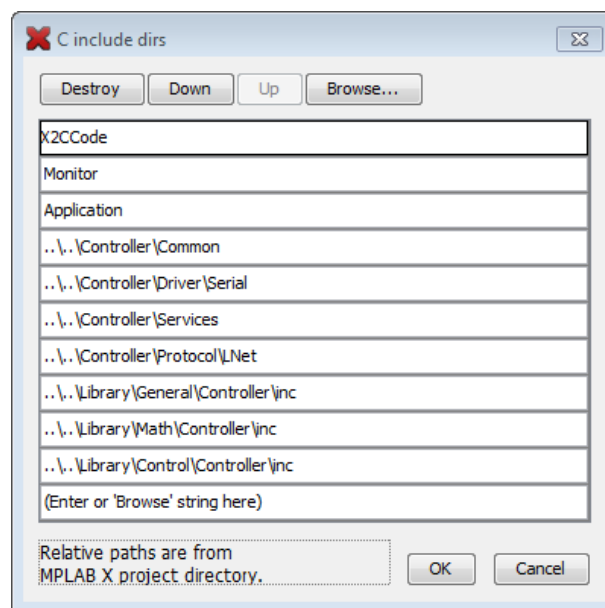

Figure 17: Default path variables for the include files
3. In the case the demo application is copied/moved to a different location, the include paths have to be adapted. To ensure the compiler uses the correct path variables right click on the **Projectname** → **Properties** → **XC16 Global Options** → **xc16-gcc**. In the drop down menu **Option categories** choose **Preprocessing and messages**. Click on the dots beside *C include dirs*. There are relative paths to the needed include files listed as seen in Figure 17. Correct the links by double clicking on the path variables.